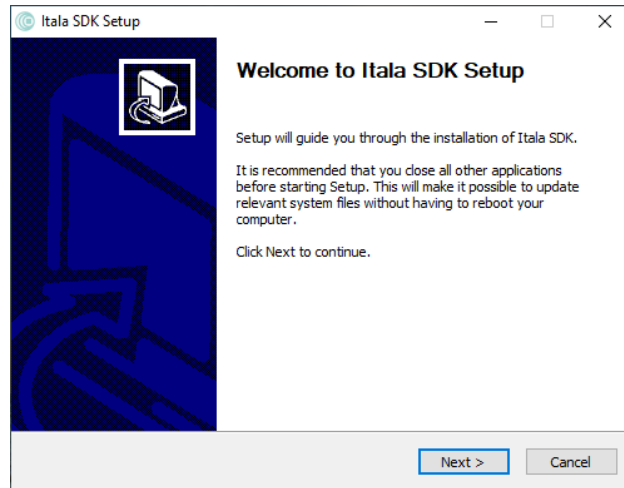

Figure 22: Itala SDK setup window.
2. The Itala SDK setup window is displayed: make sure to follow the instructions listed (Fig.22).